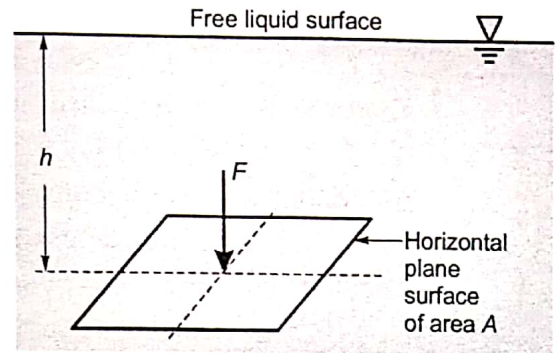

Figure 3.2 Total hydrostatic force on a horizontal plane surface
- Consider a plane surface immersed in a static mass of liquid of specific weight  $\gamma$ , such that it is held in a horizontal position at a depth  $h$  below the free surface of the liquid. (Figure 3.2)